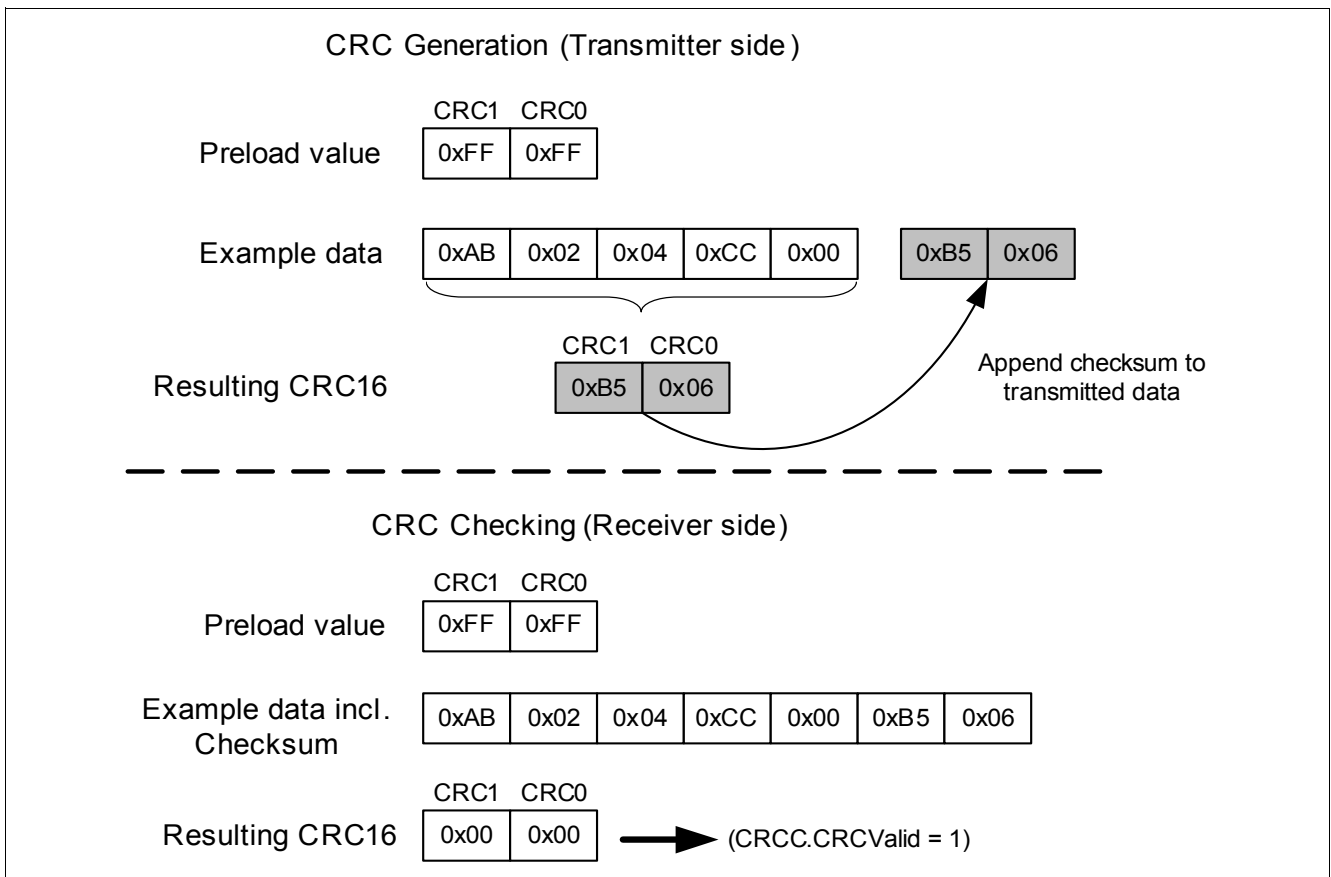

Figure 11 Example for CRC16 usage
Figure 11 shows the basic usage of the CRC16.
- The databytes which should be checked have to be shifted one after the other into the SFR CRCD. It is important that the order (MSB-LSB) is the same as it was during the CRC Generation. In addition to the data the CRC16 has to be shifted into SFR CRCD as well (first the high byte then the low byte - see also Figure 11). The process of CRC Checking is automatically invoked when data bytes are written to the SFR CRCD.